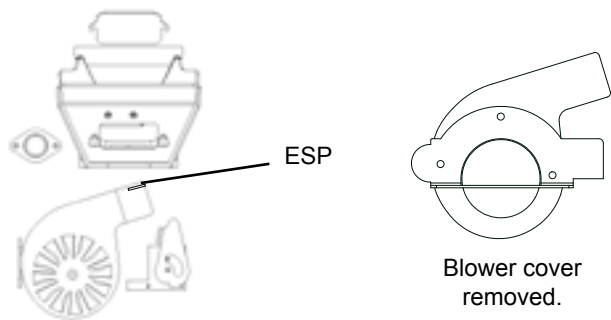

Figure 30
9. Use a brush to clean the flue, being careful not to damage the ESP, see Figure 30. The flue goes straight through into the vent pipe (Figure 27) therefore, the vent pipe can also be cleaned, to some extent, through the flue outlet.